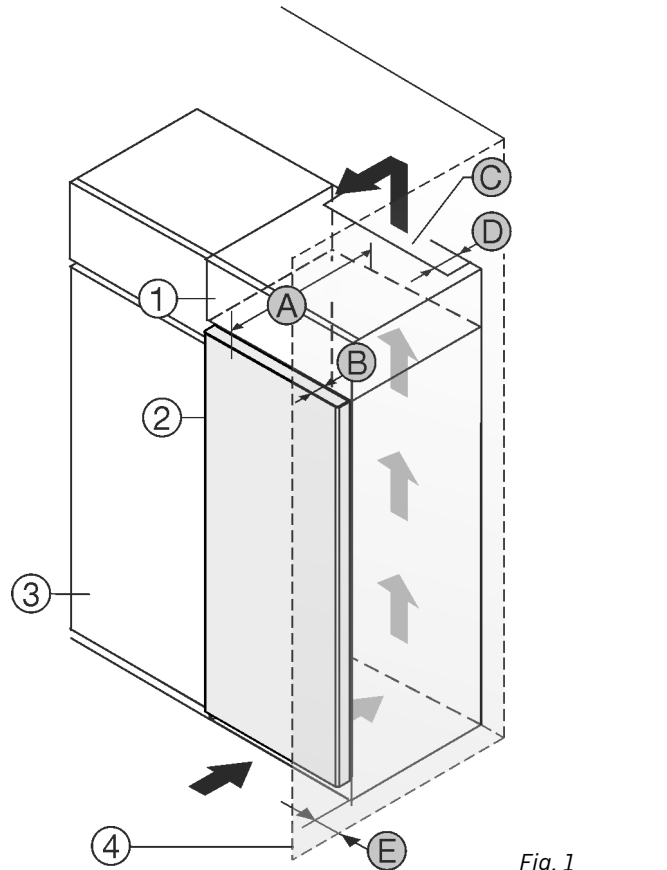

Fig. 1
Set up the appliance directly next to the kitchen cabinet Fig. 1 (3).
There must be a ventilation shaft at the depth Fig. 1 (D) of the back of the top cupboard over the entire width of the top cupboard.
The cross section of the ventilation gap Fig. 1 (C) must be maintained below the ceiling.
If the appliance is installed with the hinges next to a wall Fig. 1 (4), the distance between the appliance and the wall must be at least 13 mm.
If the appliance is installed with the hinges next to a wall Fig. 1 (4), the distance between the appliance and the wall must be at least 20 mm.